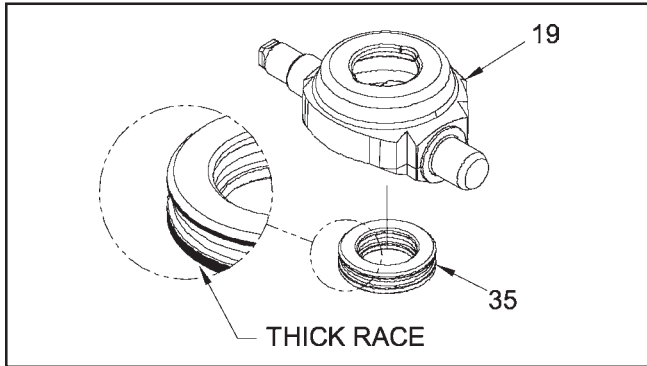

Figure 14
11. **(See Figure 14)** Remove the thrust bearing assembly (35) from the swashplate (19).
11. (See Figure 14) Install the pump thrust bearing (35) in the trunnion machined swashplate (19). NOTE: Place the thin race of the bearing towards the swashplate. The thick race must face the pistons.